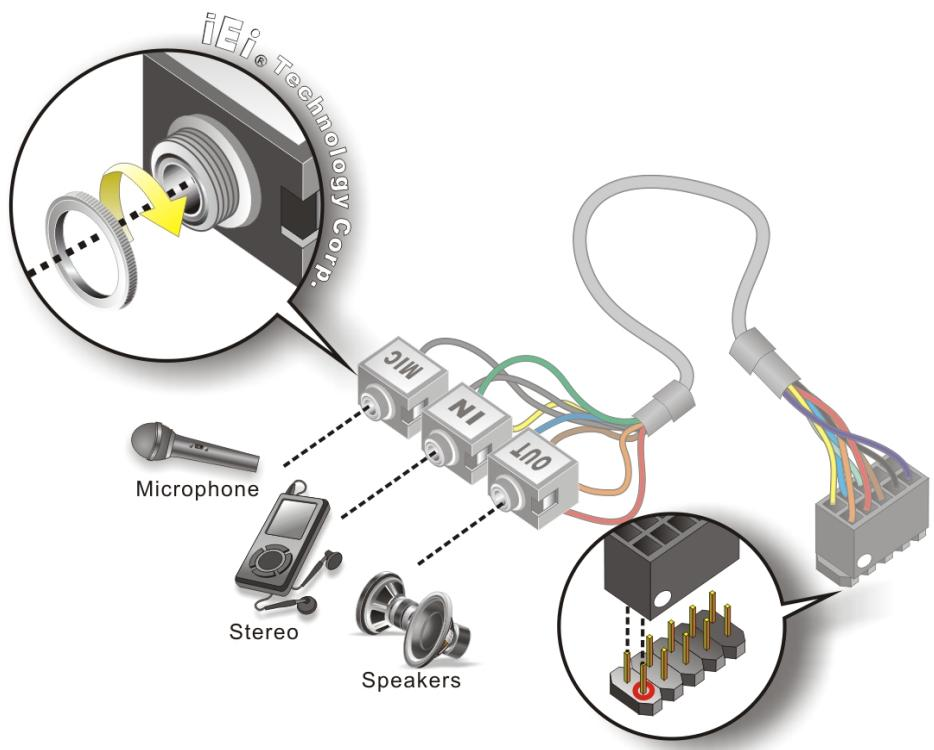

Figure 4-16: Audio Kit Cable Connection
Step 2: Align pin 1. Align pin 1 on the on-board connector with pin 1 on the audio kit connector. Pin 1 on the audio kit connector is indicated with a white dot. See Figure 4-16.